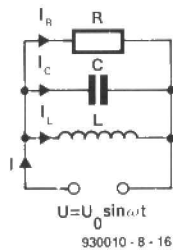

Fig. 72.
**Figure 72** shows an LCR parallel circuit to which a sinusoidal voltage is applied. This figure is the same as **Fig. 60**, discussed in Part 7. At any instant, equal voltage is applied across each branch of the circuit. For each